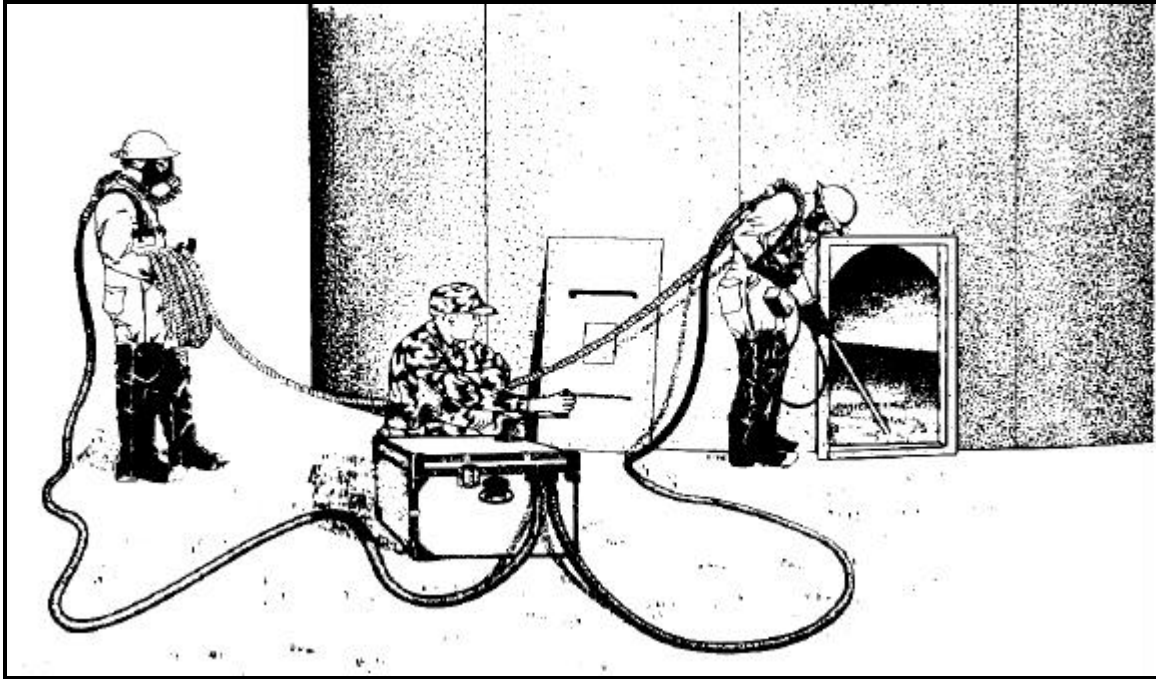

Figure 12-18. Vapor testing at cleanout door
- Wear a respirator and approach an open cleanout door or tank shell manhole. Insert the probe through the door as shown in Figure 12-18, page 12-24. Take the first reading in the area where vapors are leaving the tank. Do not enter the tank at this time.